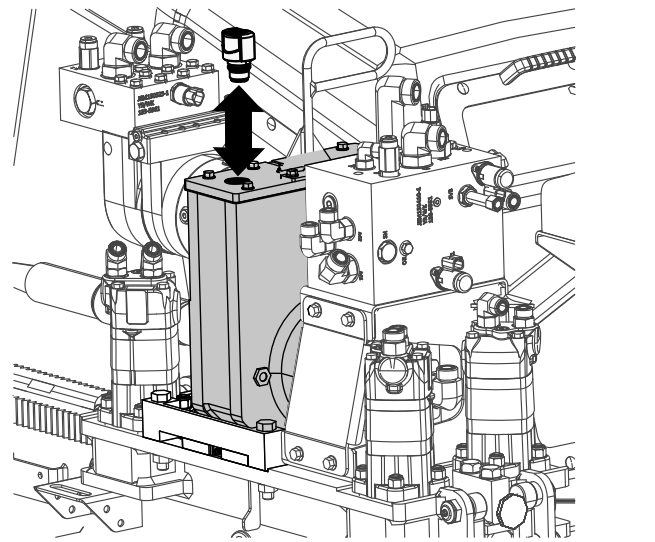

Figure 102
7. Install the breather cap (Figure 102).
5. Remove the breather cap (Figure 102).